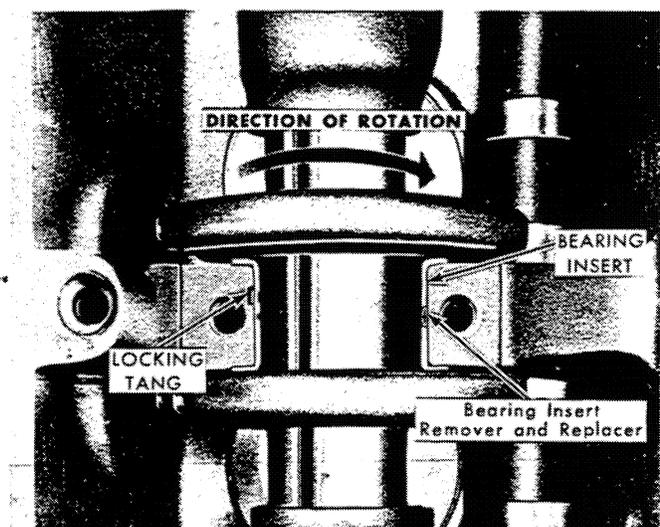

Figure 36
2. Remove the two bolts that attach the main bearing cap to the cylinder block and remove the cap and bearing. Install a bearing insert remover in the oil passage of the crankshaft as shown in Figure 36. Turn the crankshaft counterclockwise slowly until the tool forces the bearing out of the cylinder block.